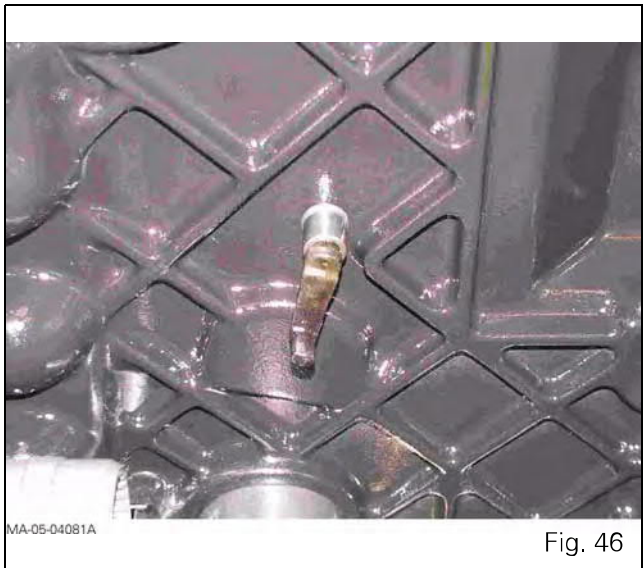

Fig. 46
46. Set the I-II range selector pointer to Neutral (middle position). (Fig. 46)